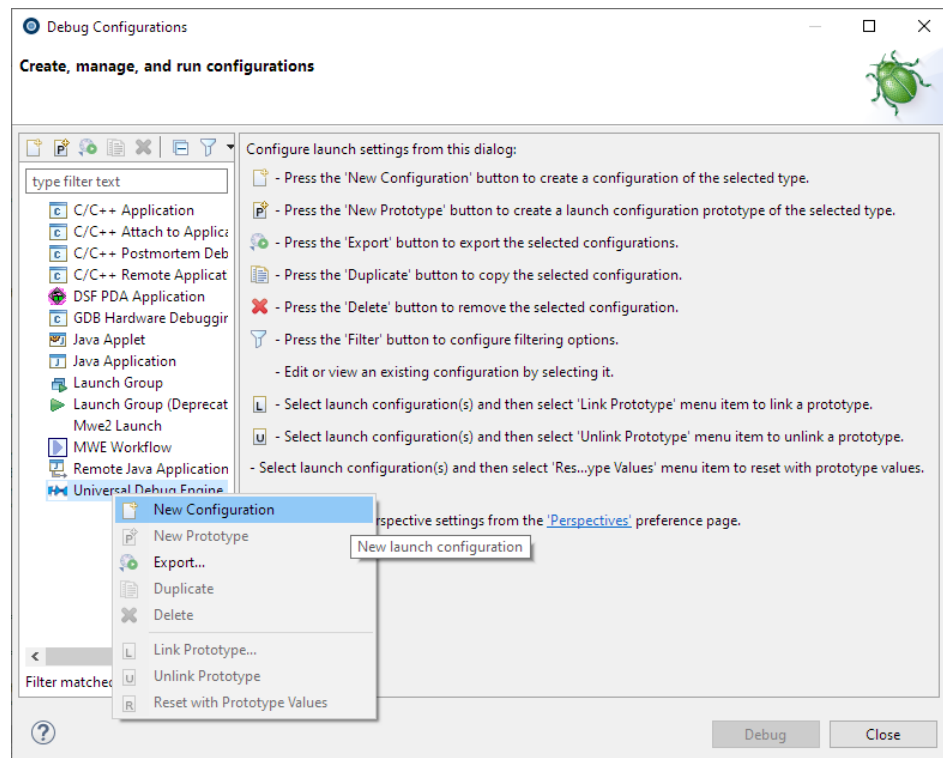

Figure 35 Debug Configurations dialog
2. The **Debug Configurations** dialog appears. Select **Universal Debug Engine** as debug type (Figure 35).